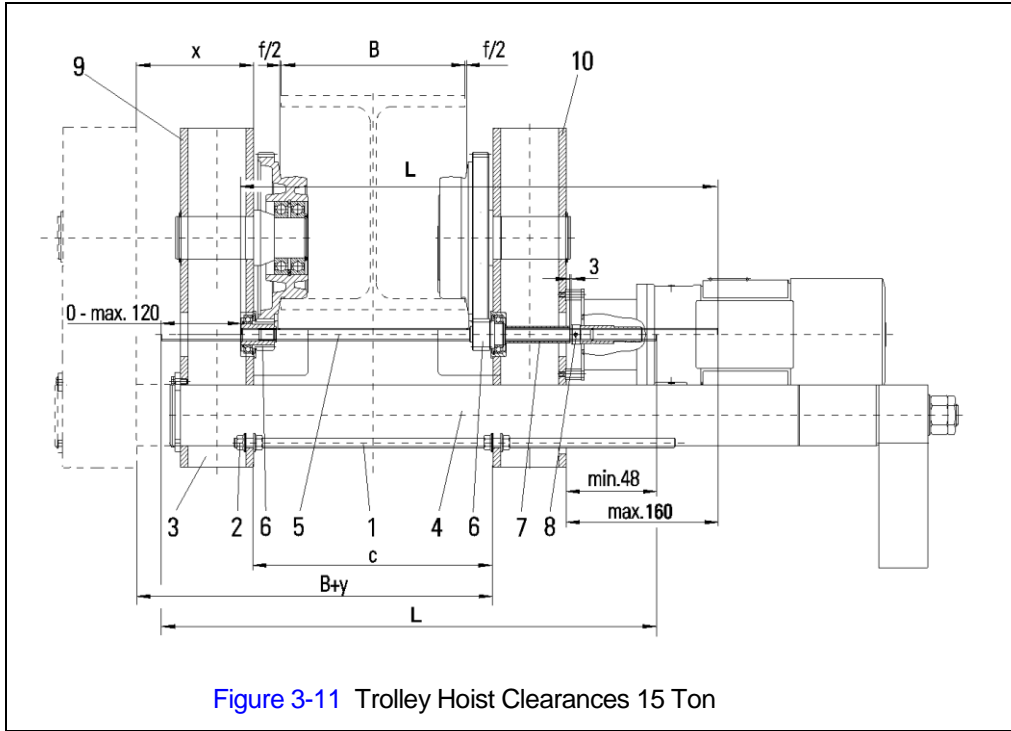

Figure 3-11 Trolley Hoist Clearances 15 Ton
Adjust drive shaft (5) so that on the hoist side of the shaft end projects between “min. 0mm” and “max. 120mm” beyond the drive pinion (6) and on the counterweight side the shaft end projects between “min. 48 mm” and “max. 160 mm” beyond the trolley side cheek (10). (See Figure 3-11).
Lock adjusting ring (8) with the adjusting screw so that there is approximately "3 mm" space between spacer tube (7) and the adjusting ring (8) when spacer tube (7) is against drive pinion (6). (See Figure 3-11)
RHN15	See Figure 3-11